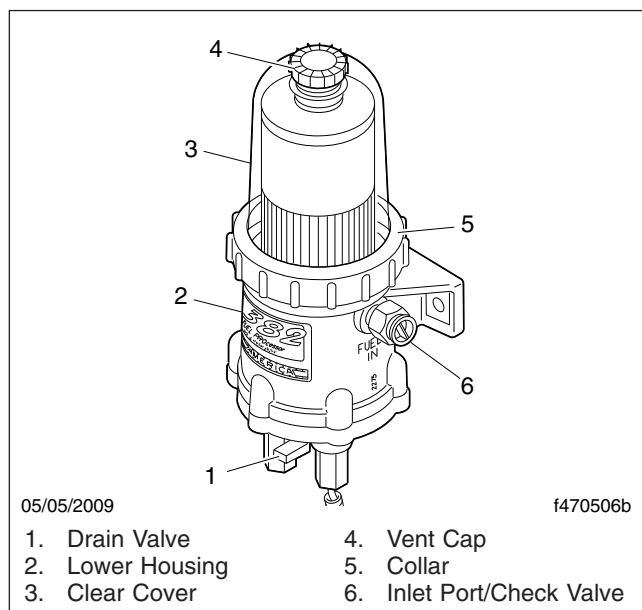

Fig. 2, DAVCO Fuel/Water Separator (Fuel Pro 382 Shown)
4. Remove the vent cap (Fig. 2, Item 4) and open the drain valve (Fig. 2, Item 1) to drain the fuel completely, then close the drain valve.